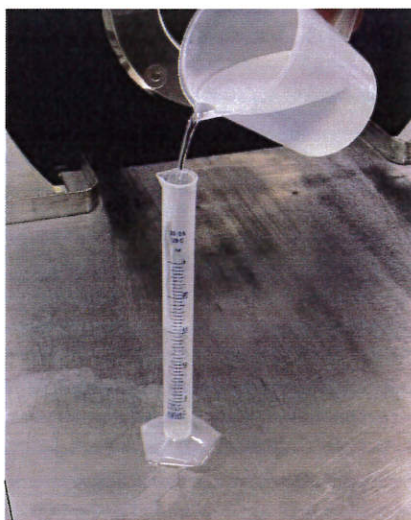

Figure 5: Pour the sample into the measuring cylinder.
6.2.3. Pour Sample into Measuring Cylinder. Measure the required 25ml of the cleaning solution using the measuring cylinder, as shown in Figure 5: